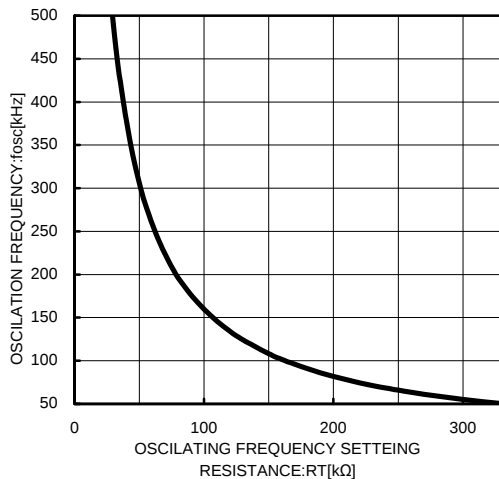

Fig.40 R_T Resistance Values vs.
This circuit generates the pulse wave to be input to the slope, and by connecting resistance to "RT", 50~500kHz oscillating frequency can be configured. (Refer to p.13 Fig.40)
6. Setting of oscillating frequency Referring Fig.40 on the following page, select R for the oscillating frequency to be used.	When f=300kHz From p.13 Fig.40, a resistance of R_T=51kΩ is selected. R_T=51kΩ